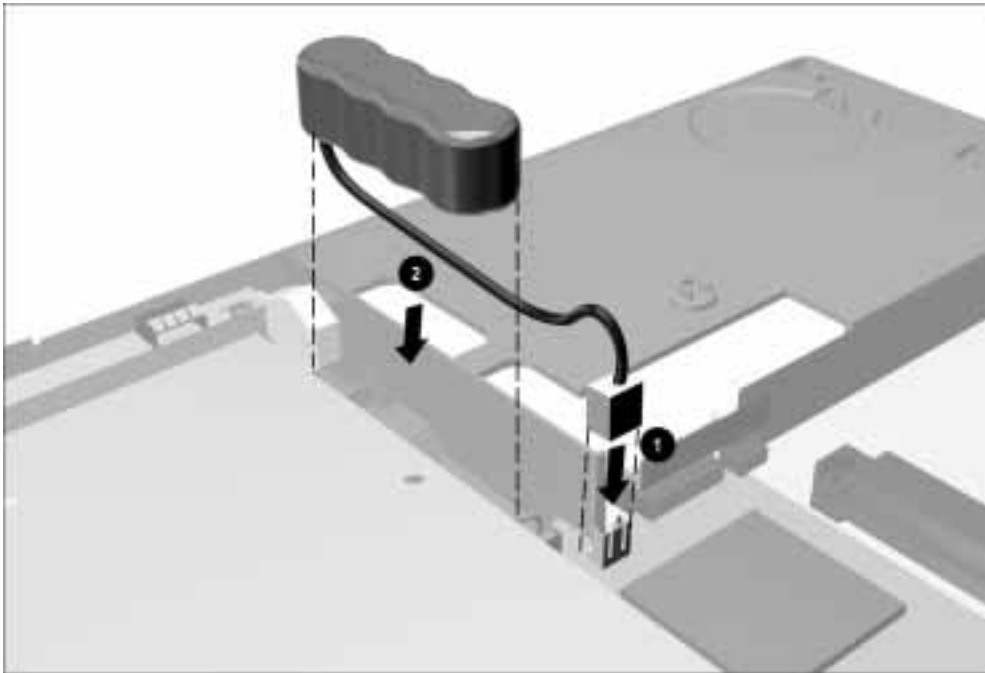

Figure 5-26. *Installing the Auxiliary Battery*
When installing the auxiliary battery, connect the battery to the system board ❶, route the cable as illustrated in Figure 5-26, and then place the battery into the channel ❷ in the front of the base assembly, with the cable underneath the battery.